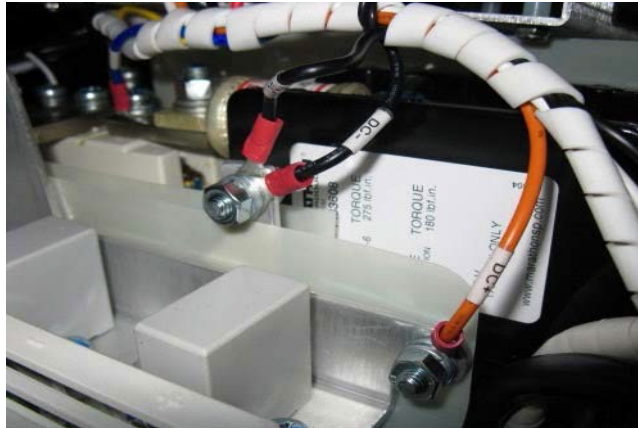

Figure 4 - Soft Start Harness to DC bus
2. Connect the -DC ring terminals to the -DC bus bar. See Figure 4.
3. Connect the +DC ring terminal to the +DC bus bar. See Figure 4.